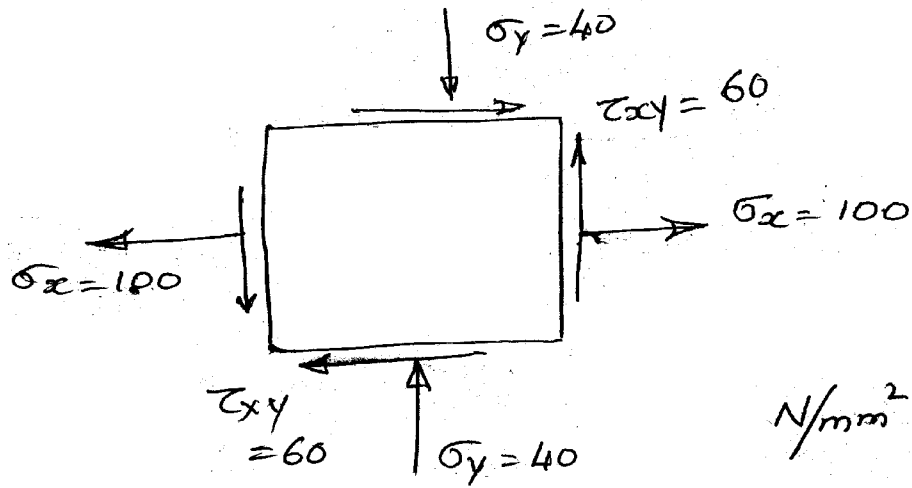

Fig. 1
- (1) Explain with neat sketches : failure patterns, End conditions and effective length observed in column under compression test.
- (2) Derive Euler's expression for buckling load of a column with one end fixed and one end free.
- (3) A material carries stresses in N/mm^2 as shown in fig. 1. Calculate principal stresses and their location. Also calculate maximum shear stress and location of plane on which it exists.